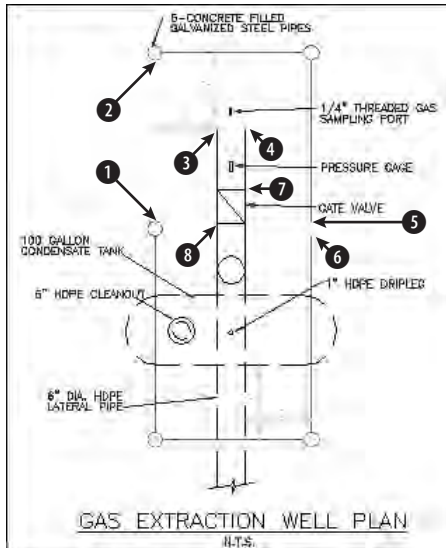

Figure 11-13: This gas extraction well plan drawing needs to be completed.
2. Save the file as *ab11-02.dwg* in your AutoCAD Bible folder. This drawing is shown in Figure 11-13. The current layer is 0. Make sure OSNAP is on. Set running object snaps for endpoint and quadrant.
4. Start the LINE command. Draw a line from ❶ to ❷ in Figure 11-13, using the Quadrant running object snap.
7. Start the CIRCLE command. Right-click and choose 2p to use the two point option. Draw a circle from the endpoint of 3 to 4 in Figure 11-13 using the Endpoint running object snap.
8. Without changing the layer, start the CIRCLE command and again use the 2p option. Draw a circle between the endpoints at 5 and 6 in Figure 11-13.
10.  Pick any red object (the Pipes layer). Choose Make Object's Layer Current from the Layers toolbar. The Pipes layer is now the current layer. Draw a line from the right quadrant of the circle at 1 to the left quadrant of the circle at 5 and 6 in Figure 11-13.